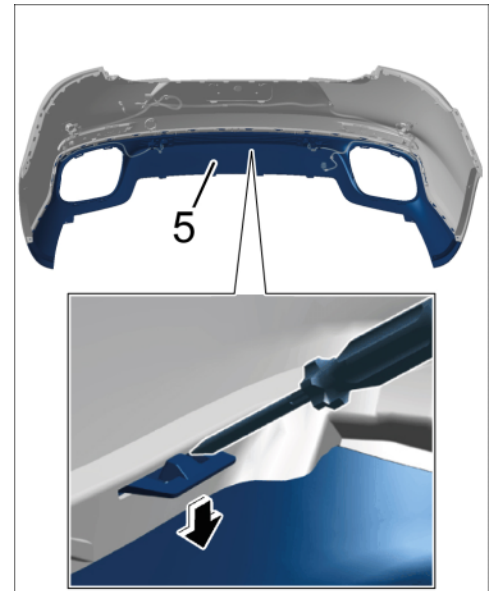

Figure 7
- 2.4 Release locking lugs all the way around ⇒ *Figure 7 -arrow-* and remove rear skirt ⇒ *Figure 7-5-* from rear apron.